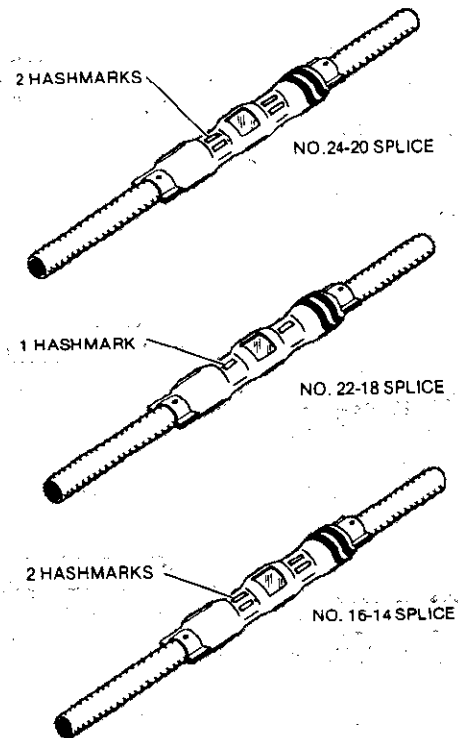

Figure 5
- Observe hashmark code on finished crimp to insure that correct splice and tool combination was used. See Figure 5.